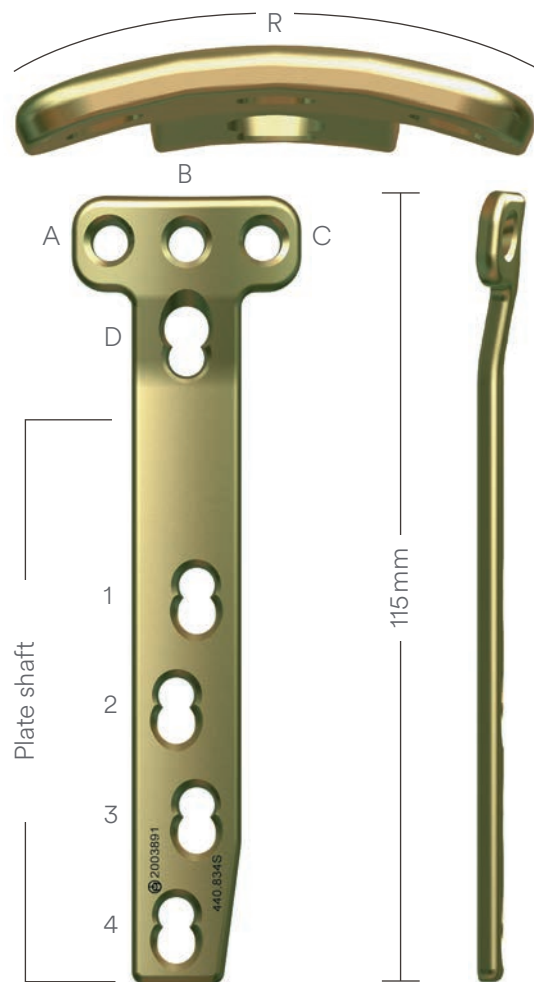

Fig. 4
The Tomofix medial proximal tibial head plate (440.834) is anatomically contoured to the tibia. The radius (R) of the proximal T-bar is curved and the plate holes A, B and C are angled at 10° (Fig. 4) with respect to the plate shaft. The plate is 3.0 mm thick and has a tapered plate end. LCP shaft holes 1 to 4 and hole D can be used with LHS and/or standard screws.